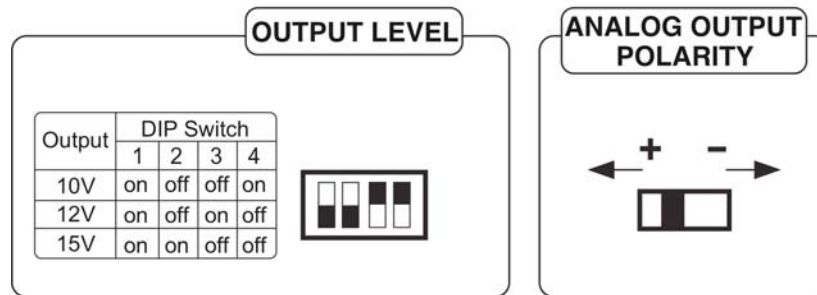

Fig. 3
- 4) Output level: 10V, 12V and 15V are available by changing the setting of 4-dipswitches (see fig. 3).
- 5) Analogue output polarity: Move to the left for "+" output, right for "-" output (see fig. 3).